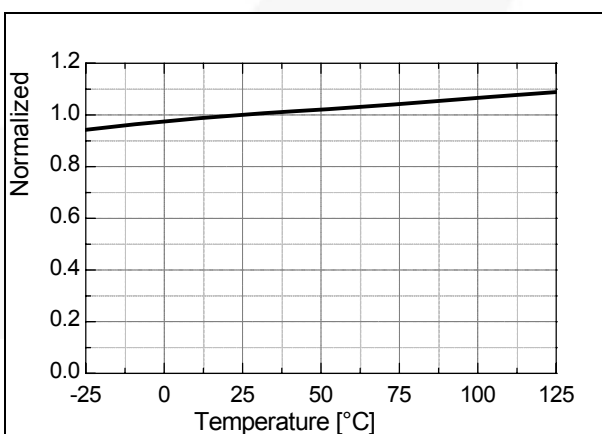

Figure 24. Peak Current Limit (I_{LIM}) vs. T_A
3. Synchronization: The FSQ-series employs a quasi-resonant switching technique to minimize the switching noise and loss. The basic waveforms of the quasi-resonant converter are shown in Figure 24. To minimize the MOSFET's switching loss, the MOSFET should be turned on when the drain voltage reaches its minimum value, which is indirectly detected by monitoring the V_{CC} winding voltage, as shown in Figure 24.